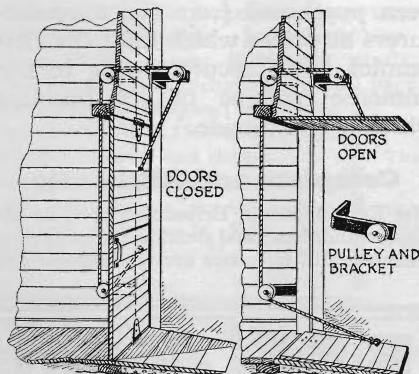

Fig. 3. Construction of garage doors that will close themselves after you have backed out
OPENING the garage doors, driving out and then having to get out of the car to shut the doors after you is a nuisance when you are in a hurry. By constructing garage doors after the fashion shown in Fig. 3 you will be able to back right through the doors, and they will close after you, eliminating the necessity for getting out to close them by hand. As you will note from the drawing, a rope or cable is arranged over pulleys so that swinging the lower half of the door down automatically raises the upper half. You will have to work out the locations of the pulleys to suit your own garage. Be sure that the lower half of the door is built strong enough to stand the weight of the car and use counterweights to assist the closing with rubber bumpers to take up the jar.
P. H. ASHBY, of Strathcona, Alberta, Canada, wins the \$10 prize this month with his garage door suggestion (Fig. 3). POPULAR SCIENCE MONTHLY awards \$10 monthly, in addition to regular space rates, for the best suggestion for motorists. Other contributions published are paid for at usual rates.